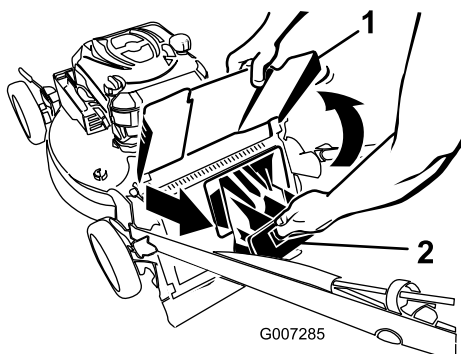

Figure 32
1. Raise and hold up the discharge deflector (Figure 32).